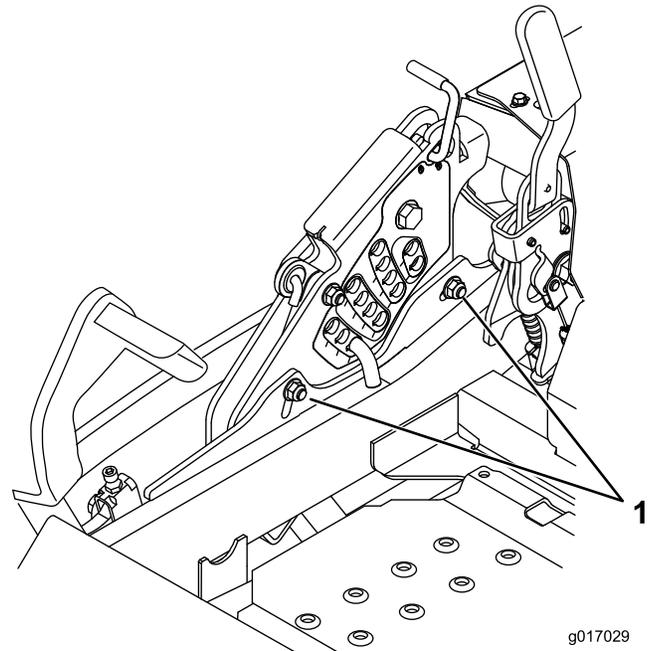

Figure 87
12. To adjust the single point system, loosen the 2 bolts at the bottom of the height-of-cut plate. Refer to Figure 87.
14. Tighten the 2 bolts at the bottom of the height of cut plate (Figure 87). Torque to 37 to 45 N-m (27 to 33 ft-lb).